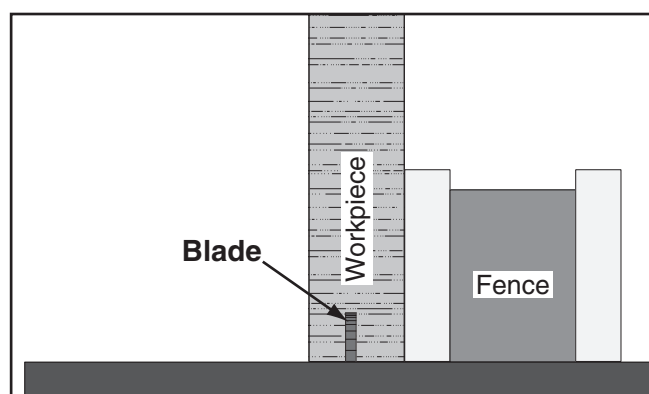

Figure 70. Rabbet cutting with a standard blade.
5. Stand the workpiece on edge, as shown in **Figure 70**, then adjust the fence so the blade is aligned with the inside of your rabbet channel.